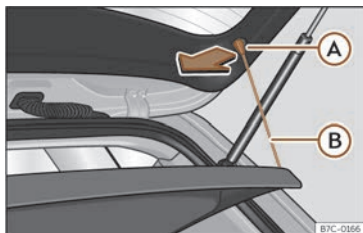

Fig. 171 In the boot: removing and installing the shelf.
- Detach the cord loops >>> **Fig. 171 (B)** from their hooks **(A)**.
- Attach the securing straps >>> **Fig. 171 (B)** onto the rear lid.